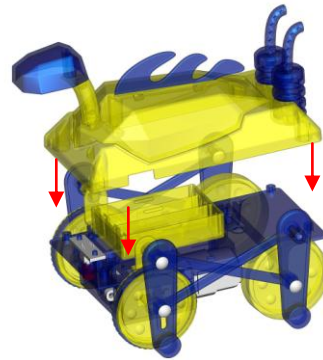

Fig. 15
12. Attach the body frame in the last step onto the chassis, as shown in Fig. 15.